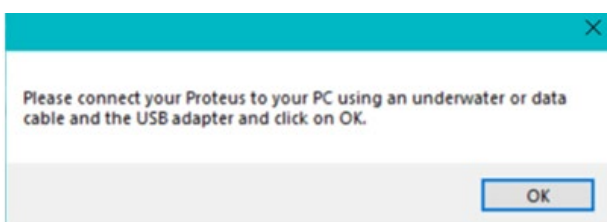

Figure 15: PCI Connection command prompt.
3. The Proteus Manager window will shut and a prompt (Figure 15) will show, click 'ok'.